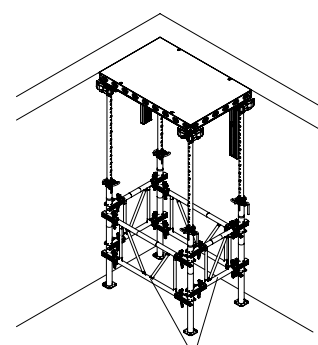

Fig. D2.05a
- Observe the Instructions for Assembly and Use for PEP Ergo slab props! (Fig. D2.05a)